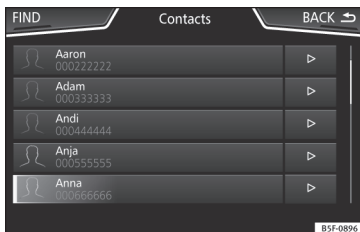

Fig. 201 Contacts Menu.
- Press the **Search** function button » **Fig. 201** to open the search window.
- Press the function button >»» Fig. 201 located next to the entry on the contacts list.